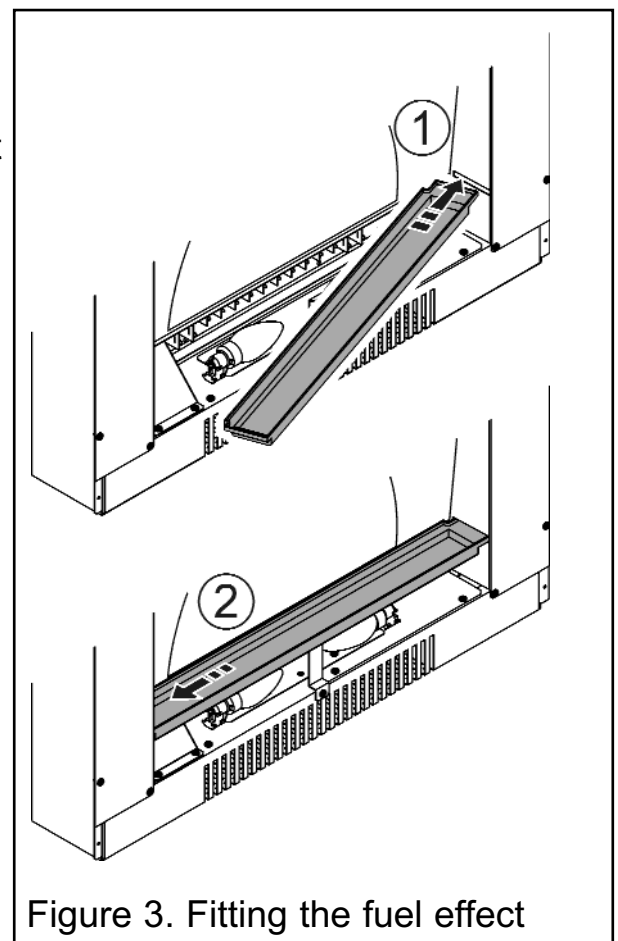

Figure 3. Fitting the fuel effect
on the fuel support bracket in the centre of the heater (See point 1 in figure 3).
- When seated, slide the fuel support to the left (See point 2 in figure 3).